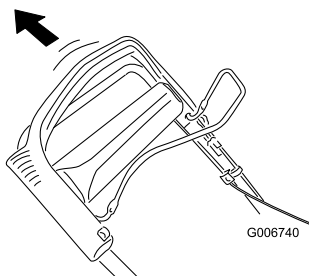

Figure 27
2. Pull the upper handle back fully rearward (Figure 27).